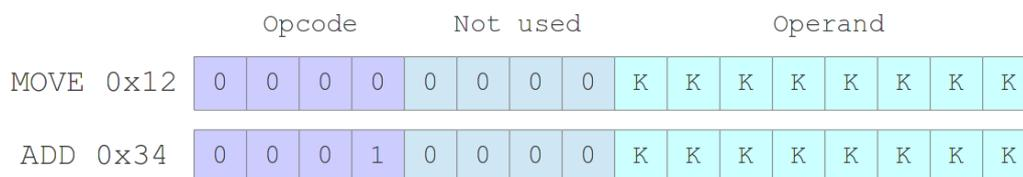
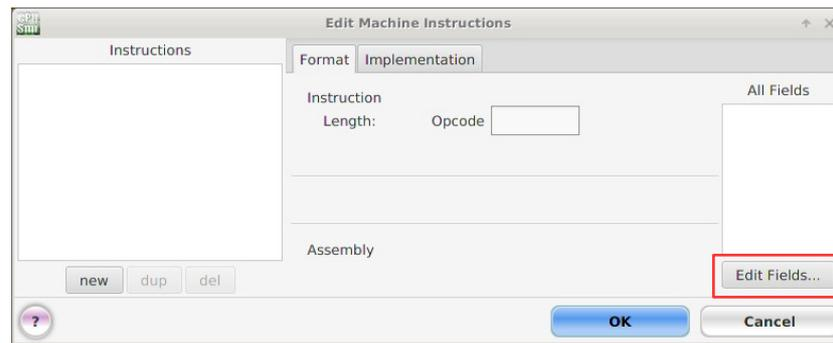

Figure 8 : MOVE and ADD instruction formats
Figure 9 : Edit machine-instructions window
The bit-fields used to define the MOVE and ADD instructions are shown in figure 8. These instructions use the immediate addressing mode i.e. the operand they process is an 8 bit constant (K bits) that is “immediately” available from the instruction register (IR) after the instruction fetch.
This will open the ‘Edit machine instructions’ window, as shown in figure 9. Before we can create a new instruction we must define the bit-fields used e.g. opcode, not-used and operand, as highlighted in figure 8. To define these bit-fields left click on the ‘Edit fields’ button.
**Task** : repeat this for the ADD instruction, its bit-fields and opcode value (0x01) are shown in figure 8. When finish click Ok to return to the main window. If you would like to check your solution the ADD instruction is shown in Appendix A.